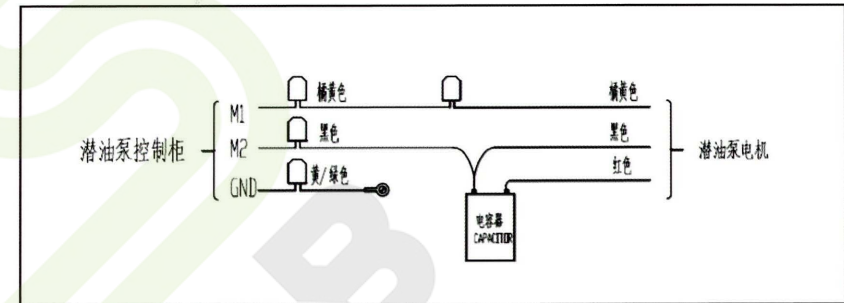

Figure 22 Wiring schematic
17. Using supplied wire nuts attach like colored pump pigtail wires to like colored electrical connector wires as shown in Figure 22.